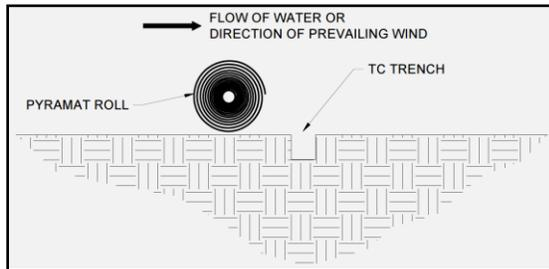

**Figure 16: Center Panel Placement**
6. Starting with the center Pyramat panel (Figure 16), roll the Pyramat rolls over the top of the compacted IC trench and upstream across the surface of the channel (Figure 17). Ensure that Pyramat has intimate contact with the ground and all irregular surfaces beneath the Pyramat are removed.
11. Starting with the center Pyramat panel (Figure 16), roll the Pyramat rolls over the top of the compacted TC trench and downstream across the surface of the channel (Figure 20). Ensure that Pyramat has intimate contact with the ground and all irregular surfaces beneath the Pyramat are removed.